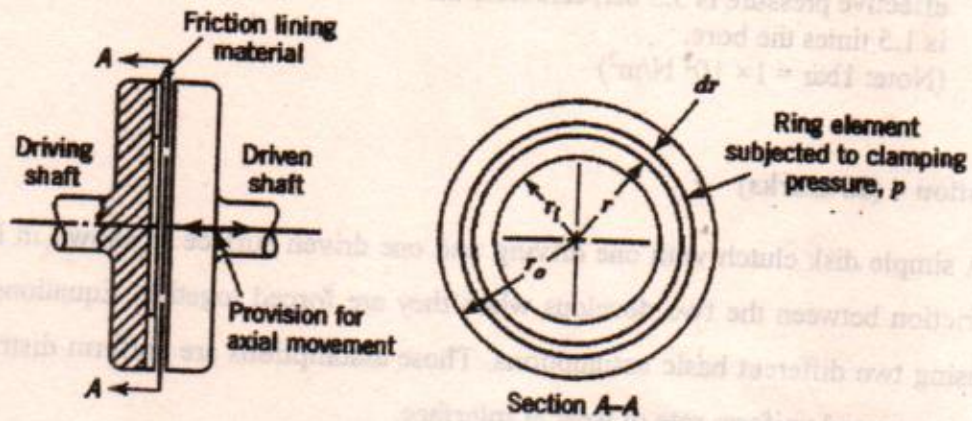

Figure Q4: Front view and plane view of Section A-A of disc clutch.
1. A simple disk clutch with one driving and one driven surface as shown in Figure Q4. Driving friction between the two develops when they are forced together. Equations can be developed using two different basic assumptions. Those assumptions are uniform distribution of interface pressure and uniform rate of wear at interface.